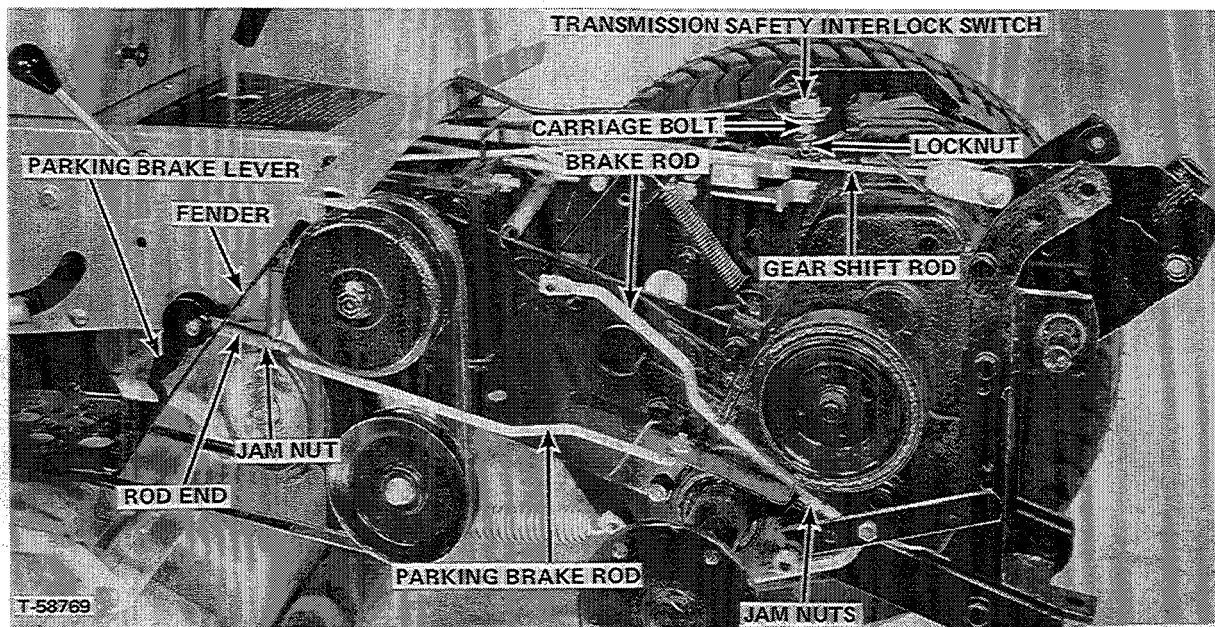

FIGURE 39
2. Loosen jam nut on parking brake rod and turn lever and rod end so that brake is tight when parking brake lever is pulled fully upward against the fender opposite the position shown in Figure 39. Tighten jam nut against rod end.
6. The transmission safety interlock switch is actuated by a special flat top carriage bolt screwed into the gear shift rod and held by a jam nut. (See Figure 39) The carriage bolt should be adjusted in or out of the rod to the correct height to actuate the switch when the shift rod is in neutral but not high enough to drag tightly against the switch. The bolt must not touch the switch when shift is in any of the 4 gears.